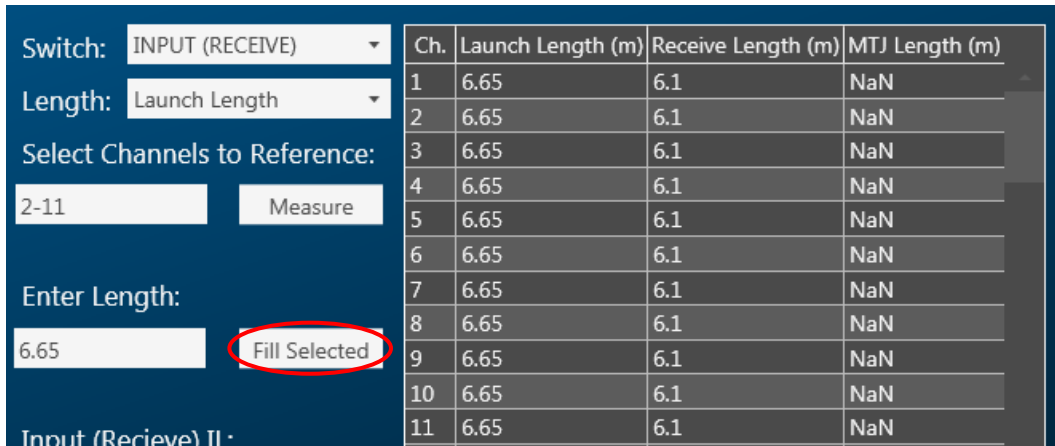

Figure 28: Fill launch length of the input switch
- Repeat the previous point for each channel or enter manually if the lengths are known (Figure 28).